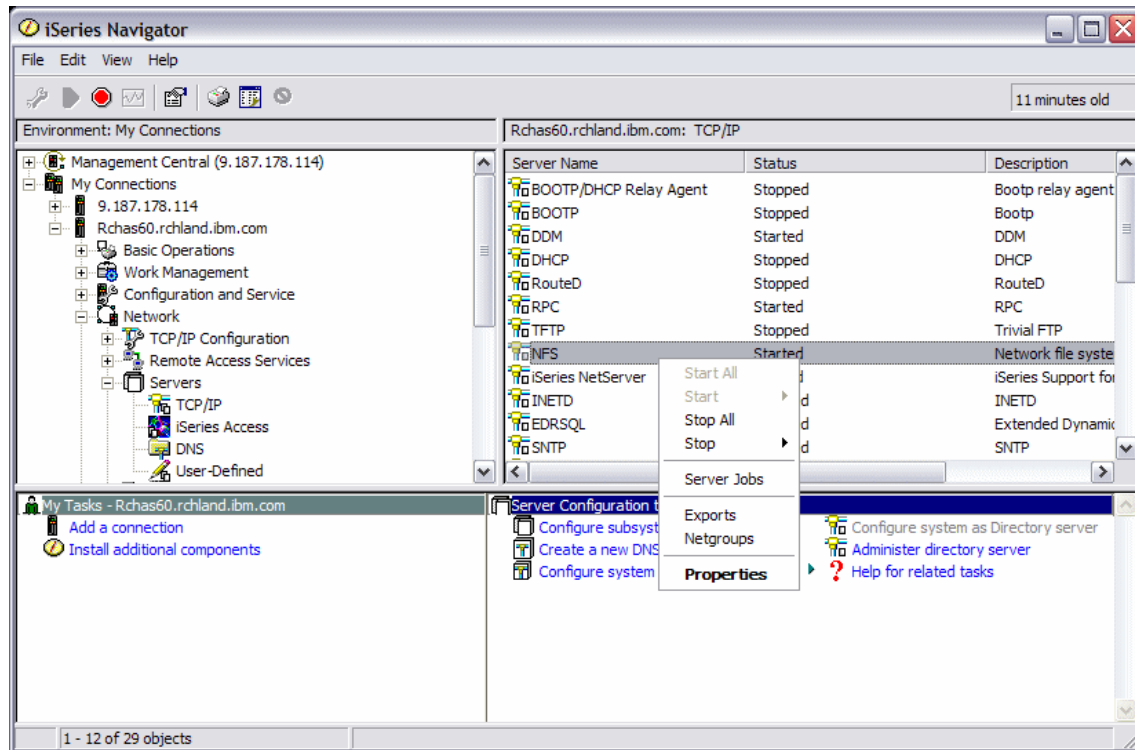

Figure A-6 System i Navigator
6. After the directory has been created, you can export the directory to the NFS by using IBM System i Navigator. In the System i Navigator window, open **Network**, then **Servers**, and then click **TCP/IP**. In the right pane, right-click NFS and select **Exports** as shown in Figure A-6.